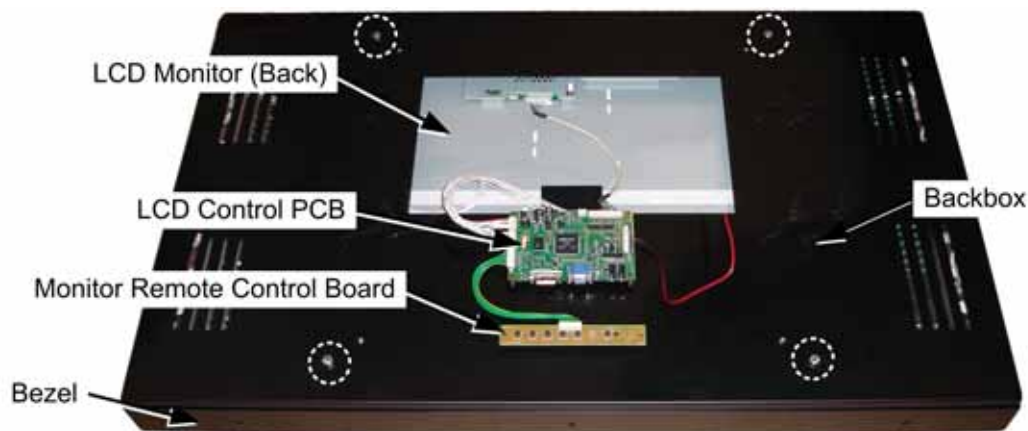

Figure 28. Monitor and Backbox Components (Deluxe)
10. Refer to Figure 28 for monitor assembly components. Carefully disconnect the three wire harnesses that connect the LCD panel to the LCD Control PCB on the back of the assembly.
11. Remove the seven (7) screws that secure the bezel in place around the front of the monitor.
12. Remove the four (4) bolts from the back of the backbox (shown by the circles in Figure 28) and lift off the backbox with the attached LCD Control PCB.
3. Refer to Figure 28 to identify monitor assembly components. Carefully disconnect all of the cables and wire harnesses from the Control PCB. (Depending on the PCB model, you may need to remove the PCB from the backbox before you can disconnect the power harness.)
4. Remove the four (4) screws that secure the PCB to the monitor backbox and remove the PCB.